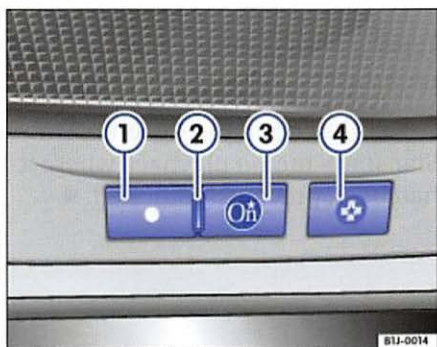

Fig. 7 OnStar services button
- Press the blue **OnStar** button ⇒ fig. 7 (3). The system beeps several times, followed by a longer beep.